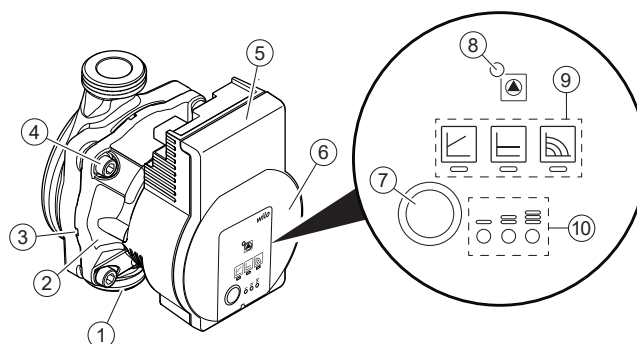

Figure A2-1: Pump components and control panel
- Run/Fault signal LED (item 8, Figure A2-1)
- Control mode display LEDs (item 9, Figure A2-1)
- Pump curve display LEDs (item 10, Figure A2-1)
**Operating button - Green** (item 7, Figure A2-1)
The Run/Fault signal LED (item 8, Figure A2-1) will indicate if there is a fault with the pump and can assist in diagnosing and rectifying that fault as detailed in Table A2-3 below: